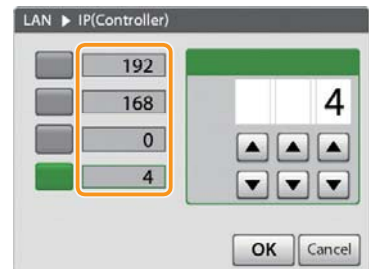

Figure 3-109
4. Input the values into all of the boxes with the same operation as in steps 2 and 3. (Figure 3-109)